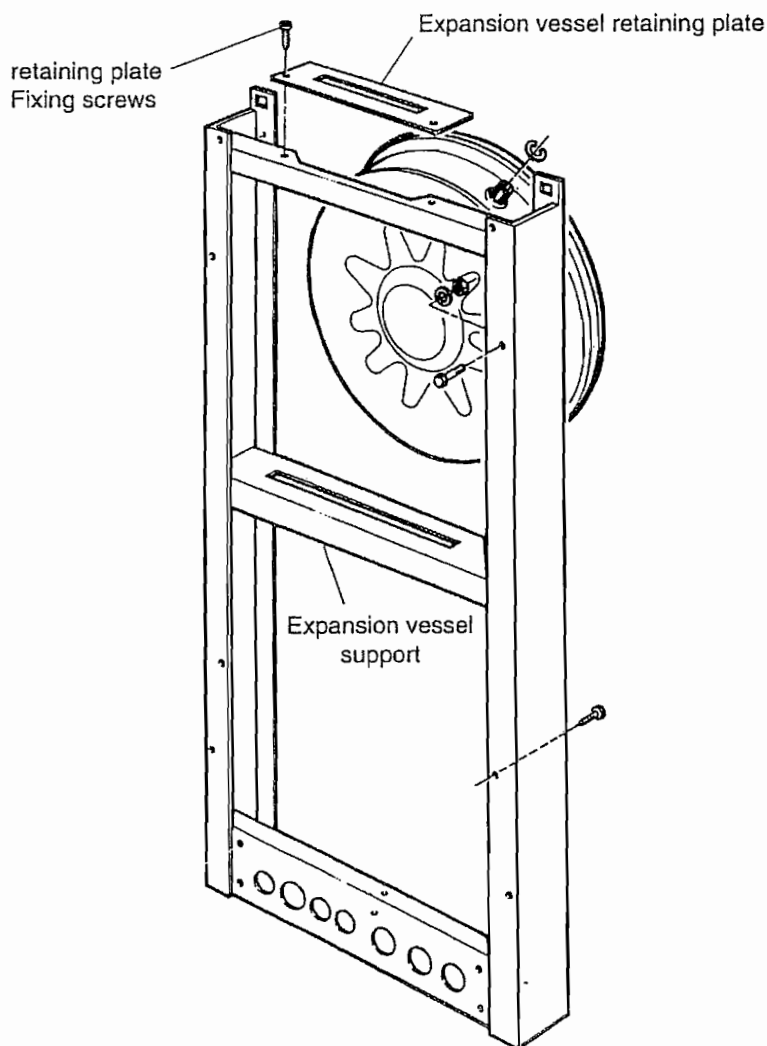

Fig. 52
- II) Remove the two screws from the expansion vessel securing plate, (fig. 52) which can be found at the top back of the boiler.
- III) Undo the compression fitting on the top of the expansion vessel (fig. 52).